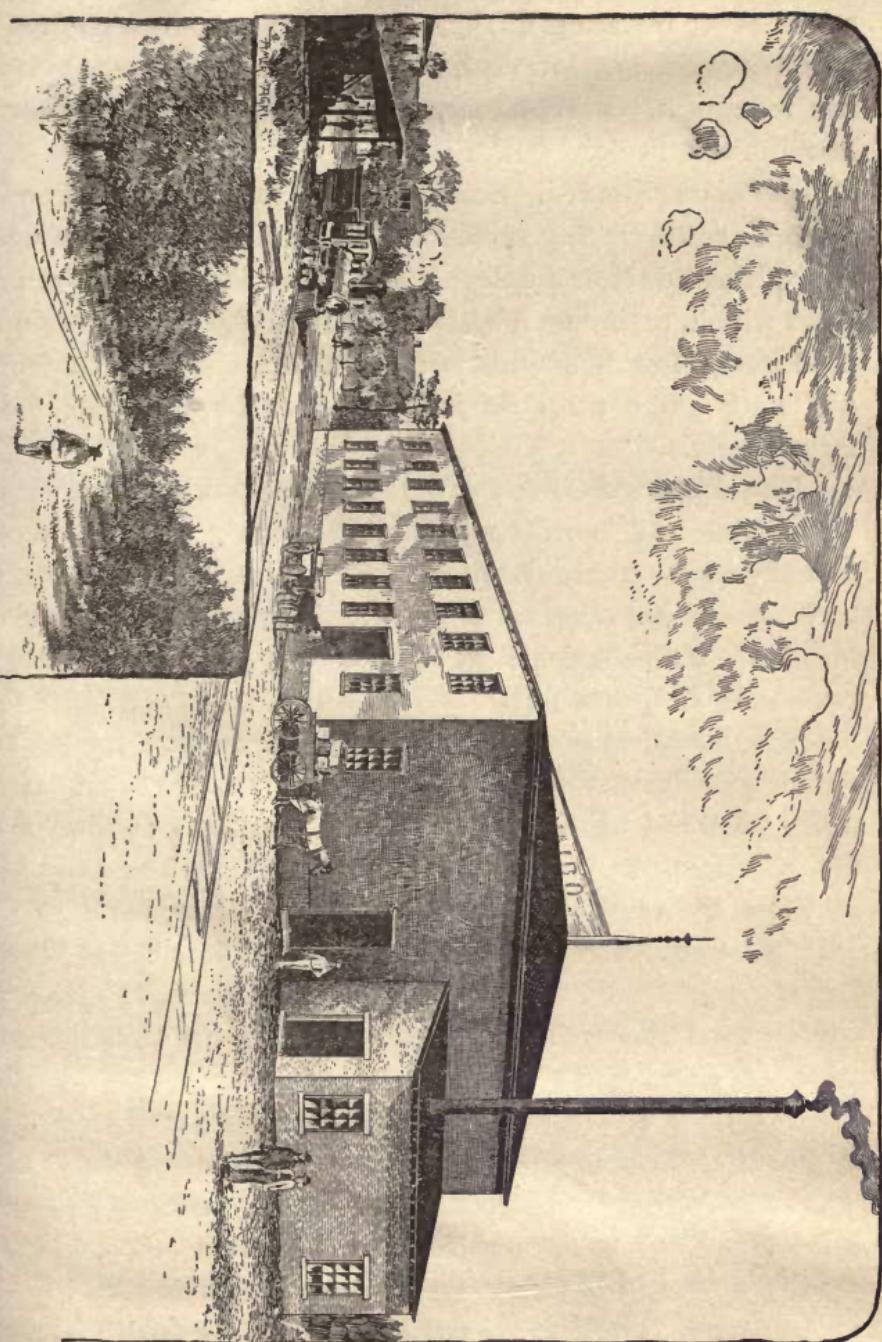

FIG. 88. A FRUIT RETARDING HOUSE IN FLORIDA, WHICH USES REFRIGERATING MACHINERY.
**A LARGE PLANT FOR THE STORAGE OF FRUIT** is situated at Waldo, Fla., and is controlled by the American ice and cold storage company. It is illustrated in Fig. 88. A perfectly dry, cool atmosphere is maintained, and a temperature so uniform as to demand only one degree of variation. The temperature at which the rooms have to be kept varies from 33° to 45° F.. depending on the character of the fruit which is to be stored. The higher temperatures are preferable, if sufficiently low to preserve the fruit. Retarding houses for keeping oranges or the more delicate fruits, can usually be more successfully managed by the use of refrigerating machinery, as it is not always possible to maintain a sufficiently even and low temperature by means of ice.